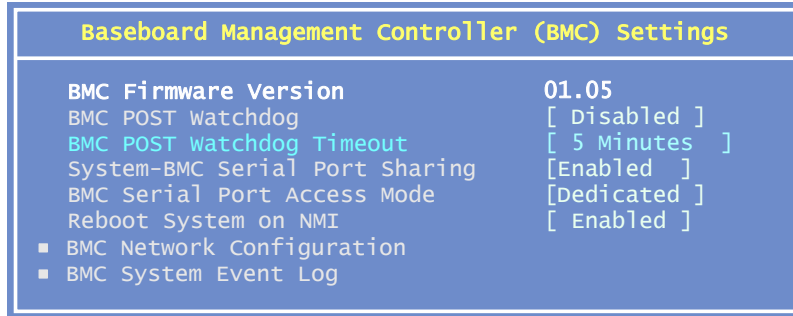

Figure 5-11 BMC Settings panel in BIOS
3. Select **Baseboard Management Controller (BMC) Settings**. The menu is as shown in Figure 5-11.
You can access the BMC System Event Log (SEL) via the menu shown in Figure 5-11 or using tools such as OSA SMBridge. This event log records all the hardware alerts for the server. The event log displays one event per screen. Use